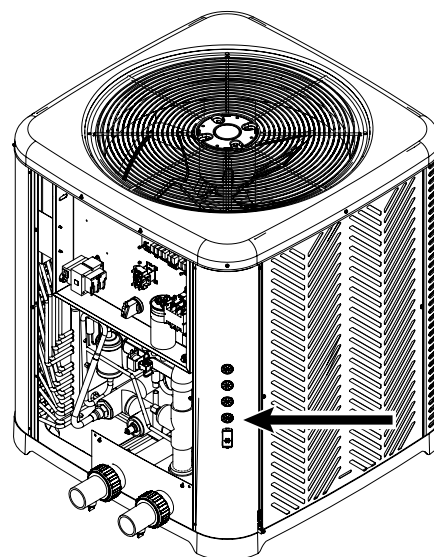

Figure 128. Use the Grommets
5. Use the grommet(s) to run the control and/or power wires from the external device(s) to the heater control box. See Figure 128.